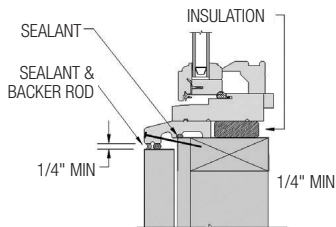

FIG. 16: CASEMENT SILL
- B) After siding or wall exterior is complete, apply backer rod and silicone sealant between the window frame and siding material on both sides and sill. Make sure to use 100% neutral cure silicone sealant. (Figs. 16, 17 & 18)